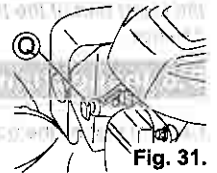

Fig. 31.
- 1 Remove Plug cap (Q). (See Fig. 31.)